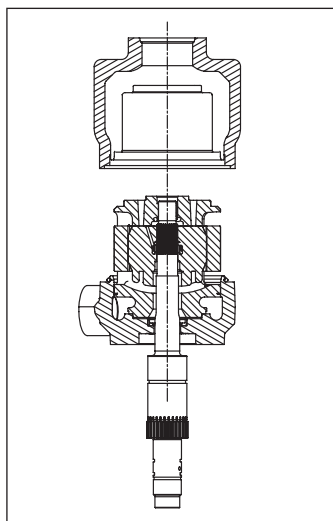

Figure 63
3. Remove the housing (**Fig. 63**).